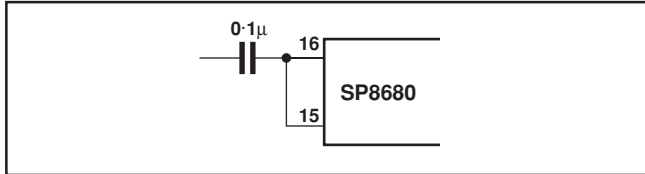

Fig. 6 AC coupled input
2. The test configuration for dynamic testing is shown in Fig.6.